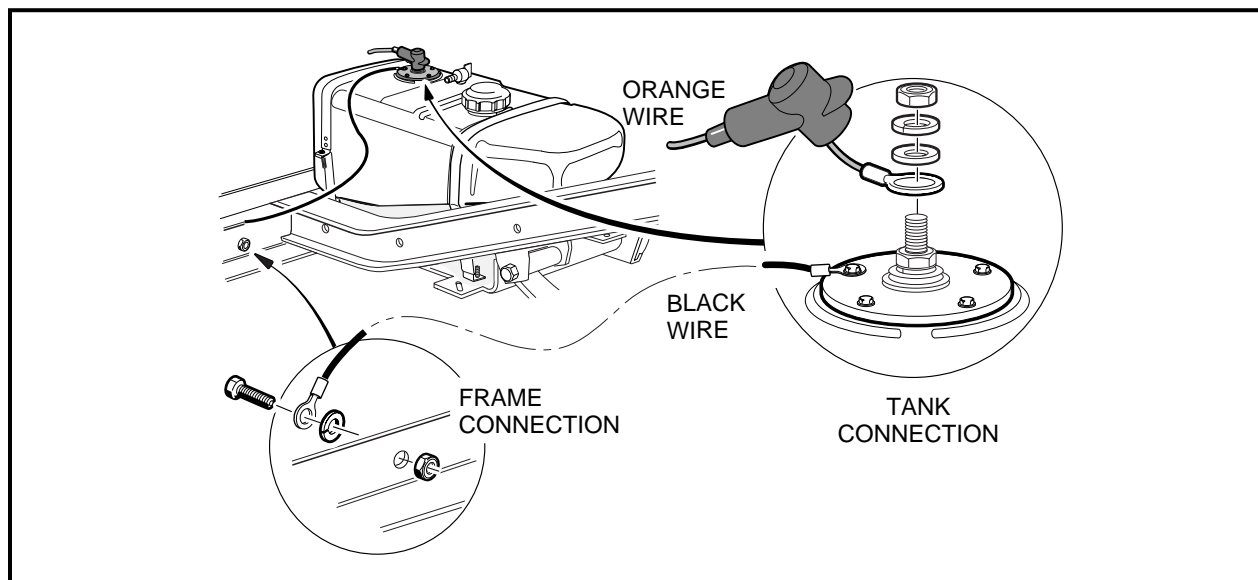

Figure 14-19 Fuel Level Sending Unit
9. If vehicle is equipped with a fuel gauge, detach the black wire and orange wire from the fuel level sending unit on the tank (**Figure 14-19, Page 14-24**). Do NOT remove the lower nut on the center stud of the sending unit.
6. Connect the black wire to one of the fuel level sending unit screws. Connect the orange wire to the center stud (**Figure 14-19, Page 14-24**) and install flat washer, lock washer, and nut. Tighten to 18 in-lb (2.0 N-m).
7. Slide the rubber boot over the stud ((**Figure 14-19, Page 14-24**).